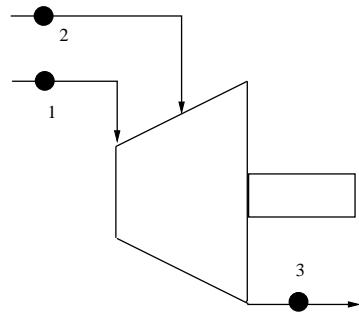

Figure 1: Schematic for Problem 2
2. An adiabatic steam turbine receives steam from two different sources, as shown in Figure 1. The pressure and temperature at state 1 are 5 MPa and 800°C and the mass flow rate is 10 kg/s. At state 2, the pressure and temperature are 1 MPa and 500°C, and the mass flow rate is 5 kg/s. The exit state is given by 30 kPa and 90% quality. You may ignore potential and kinetic energy changes through the device.